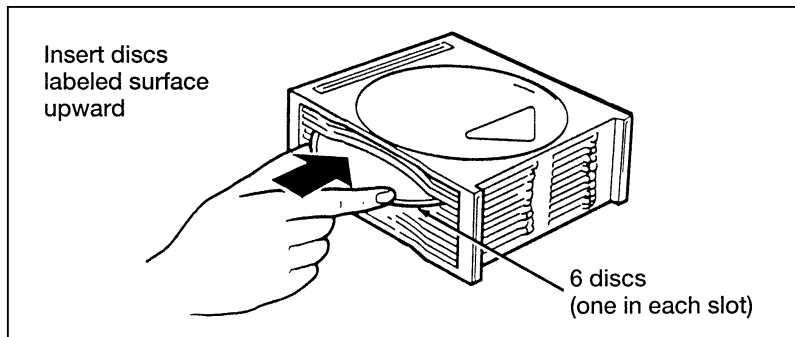

Figure 3
3. Load discs into the disc magazine slots (numbered 1 through 6) one at a time with labeled surfaces upward, starting with bottom slot number 1 (Figure 3).